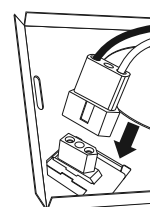

Fig. 16
- Reinstall motor mounting assembly. Plug the motor into the receptacle. See figure 16.